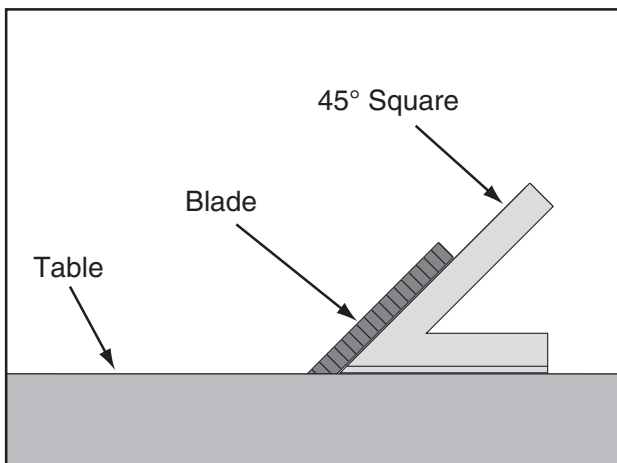

Figure 125. Checking blade at 45°.
3. Place a 45° square against the table and blade so it contacts the blade evenly from bottom to top, as shown in **Figure 125**. Make sure a blade tooth does not obstruct the placement of the square.